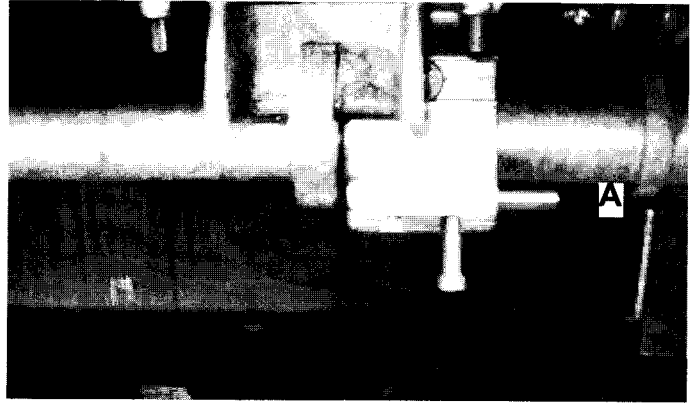

Fig. 18-1 : Pneumatic opening door
Set the door hook locking bolt (A) in unlocked position, fig. 18-1 and fig. 18-2.